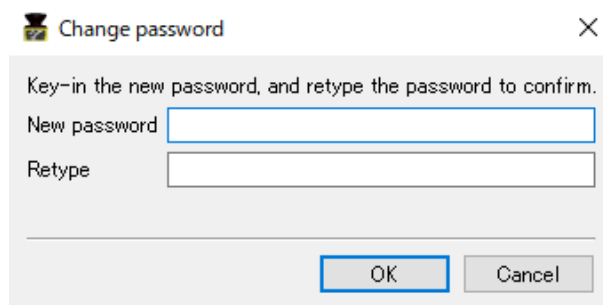

Figure 7-29 Password change
- Window as shown in figure 7-29 will be displayed.